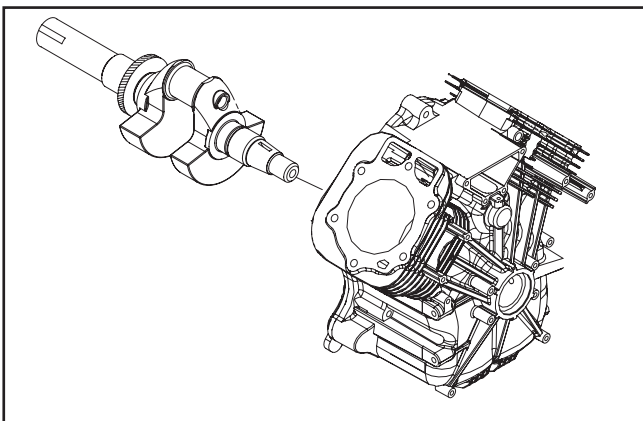

Figure 9-4. Remove Crankshaft
6. Remove crankshaft (Figure 9-4).